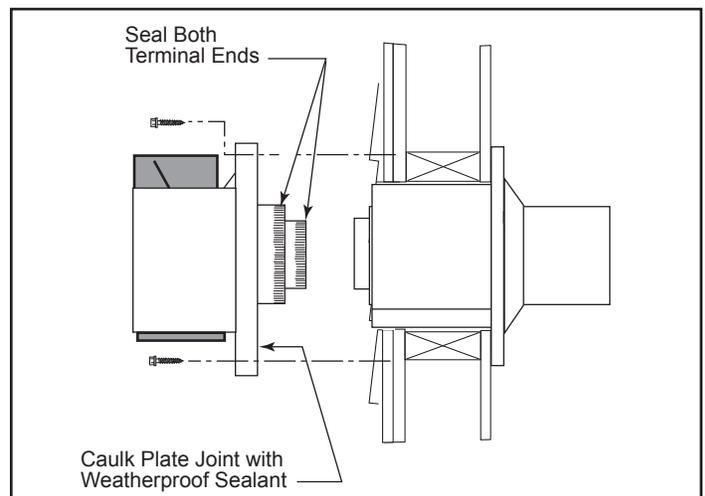

Figure 27 - Install the vent terminal.
10. **For both Hearth and Home Technologies and DuraVent Systems:** Install the vent terminal. (Figure 27) Apply high temperature sealant one inch from the ends of the inner and outer collars. Guide the inner and outer vent termination collars into the adjacent pipes. Double check that the vent pipes overlap the collars by 2". Fasten the termination to the wall with the screws provided, and caulk the joint with weatherproof sealant.